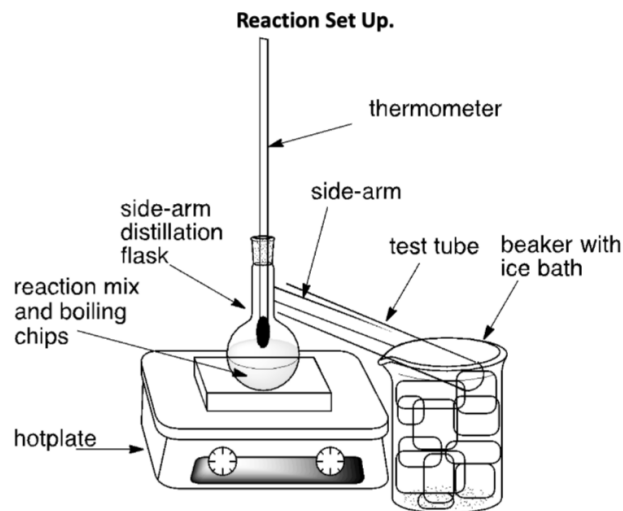

Figure G.2: Setup for the dehydration reaction
5. Clamp the side-arm flask above a heating plate. Make sure the round bottom portion is fitted into an appropriate sized opening on an aluminum heating block as shown in Figure G.2.